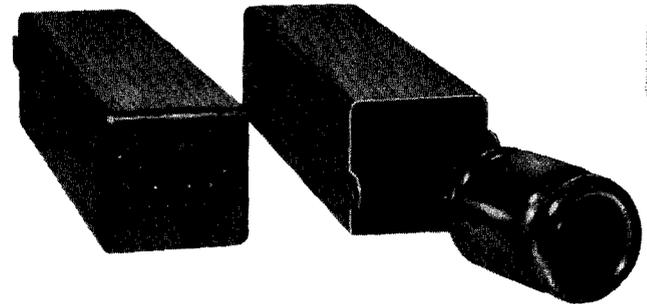

Fig. 1 — 849E Network
2.01 The 849E network is a plug-in unit (see Fig. 1) equipped with a 15-pin connector plug and is designed to be plugged directly into the mating connector socket of the equipment mounting shelf. The network consists of a 600:600-ohm transformer and a 600-ohm balanced pad (when the required 89-type plug-in resistor is inserted in the pad socket). The network is housed in a metal can approximately 1-3/4 inches wide by 1-3/4 inches high by 7 inches long.